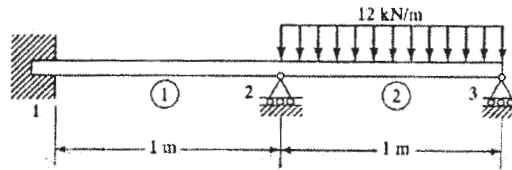

Figure 4
- Q3)** A continuous beam (Figure 4) has fixed support at node 1 and roller supports at nodes 2 and 3. Analyse the beam using finite element method and draw SFD and BMD. Take  $E = 200 \text{ GPa}$  and  $I = 4 \times 10^6 \text{ mm}^4$ . [18]